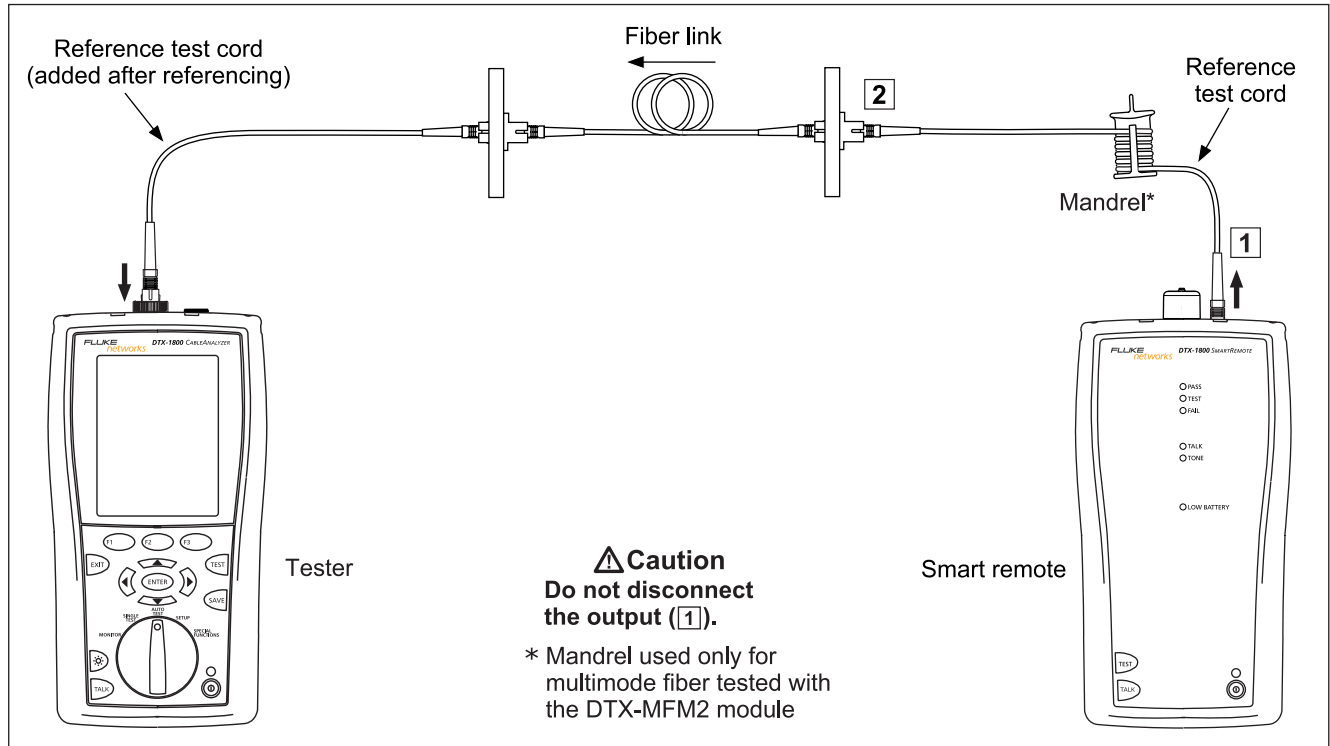

Figure 7-18. Far End Source Mode Test Connections (Method B)
- 3 Connect the tester to the cabling as shown in Figure 7-18.